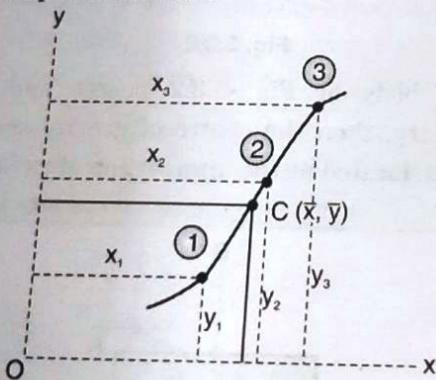

Fig. 5.2.1
- In the Fig. 5.2.1 above, Let the line of whole length 'L' be divided into three line segments of length l_1 , l_2 and l_3 respectively.